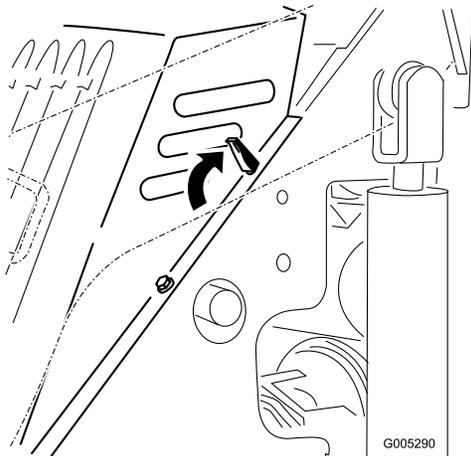

Figure 17
3. Release the four locking tabs (Figure 17, top, left tab illustrated).
1. Position the hood over the traction unit frame with the posts on the hood fitting into the holes in the frame (Figure 17).
2. Secure the hood by pushing the locking tabs forward and down (Figure 17).